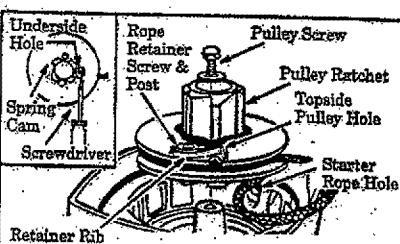

Figure 41
- Remove the pulley screw in the center of the pulley. Figure 41.
- Remove the rope retainer screw and remove any remaining rope. Figure 41.
- Feed the rope through the round starter rope hole in the fan housing. Figure 41.
- Guide the rope inside the pulley, then up through the pulley ratchet side of the pulley hole to the outside by pushing the rope through from the hole on the spring cam side with a small Phillips screwdriver. Figure 41 (inset).
- Wrap rope counterclockwise around the pulley ratchet and tuck loose end back under rope leaving a 1-inch tail between the retainer rib and screw post. Figure 41. Pull rope tightly.